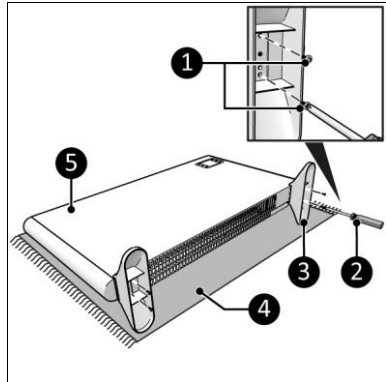

Figure 7
1. Lay the device down on a steady soft surface (Figure 7, pos. 4).
2. Place the pedestals (Figure 7, pos. 3) on both sides of the main body (Figure 7, pos. 5).
3. Screw and tighten the pedestals with a small screw (Figure 7, pos. 1) using a Phillips screwdriver (Figure 7, pos. 2).